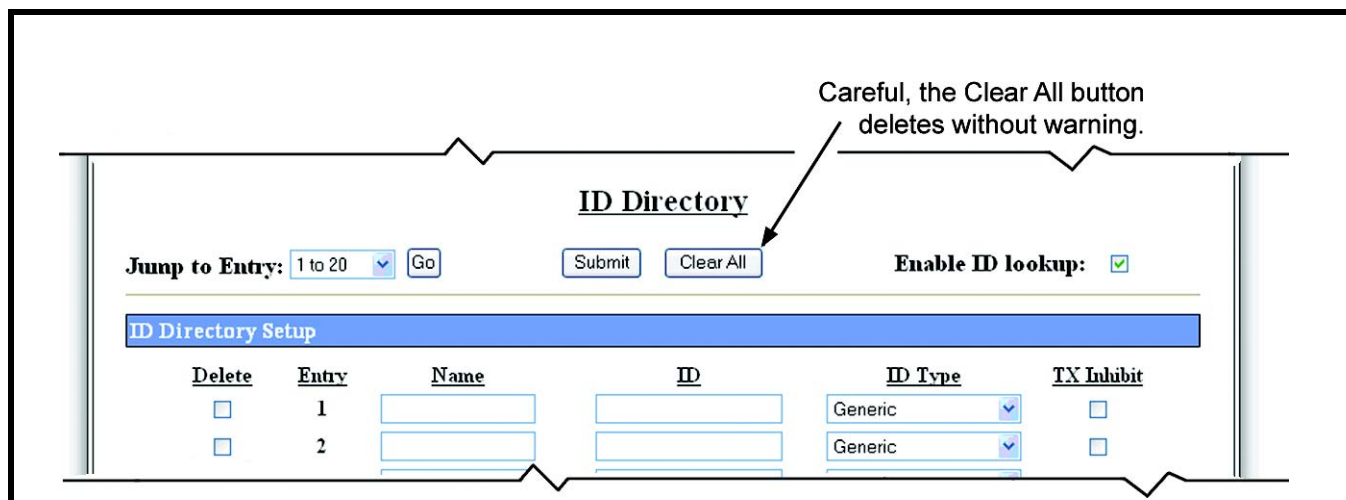

FIGURE 71. ID Directory—Clear All Button
IMPORTANT! The Clear All button, see Figure 71, deletes all entries (entries 1–100) from the directory with one (1) click, no matter which page you are currently viewing.